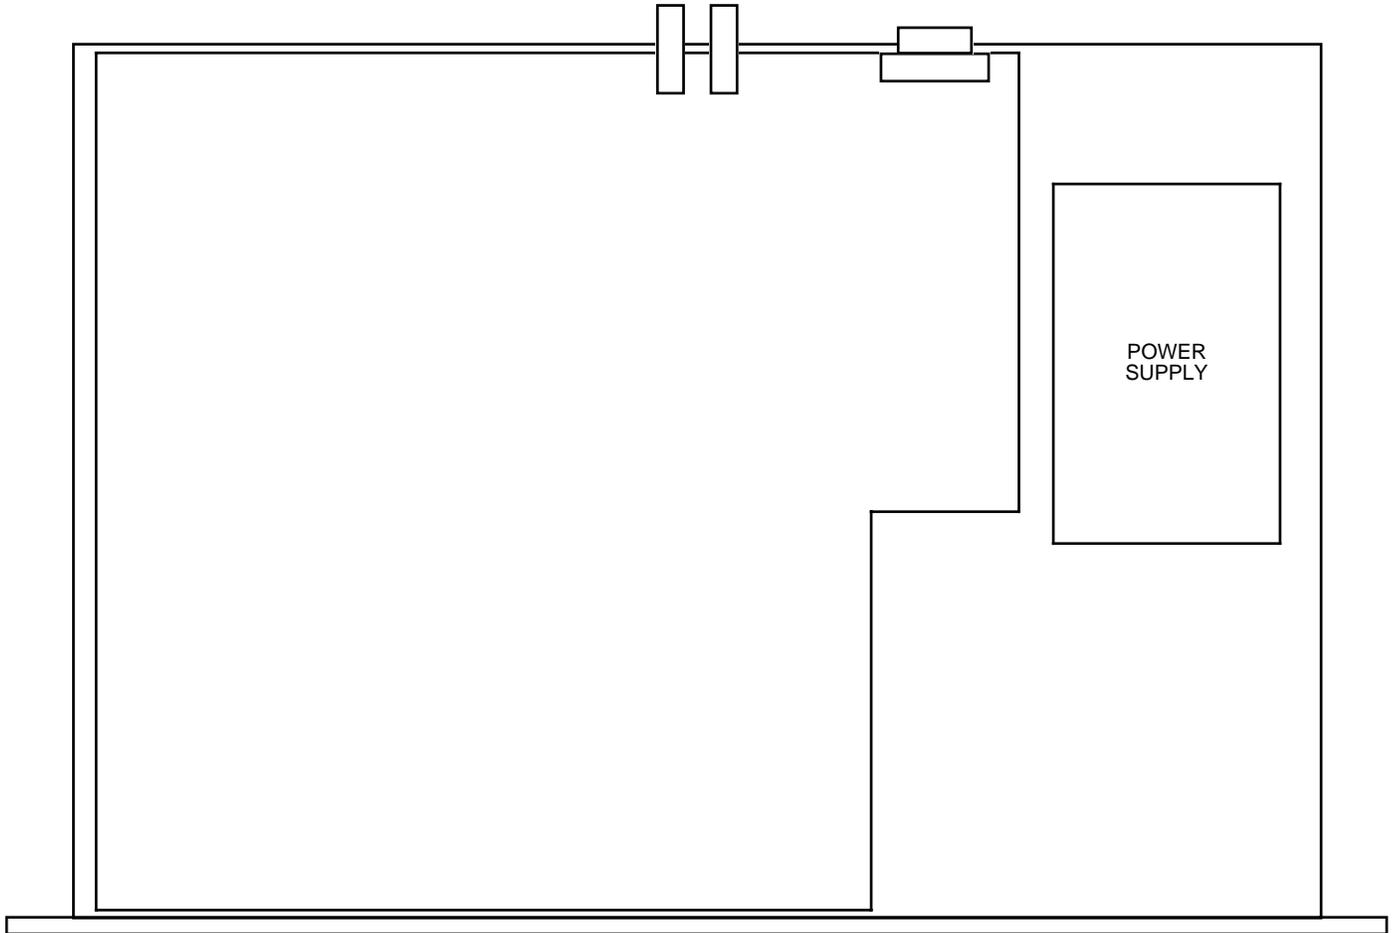

FIGURE 2.0 2099-100 Mechanical Assembly
2.1 Mechanical - The 2099-100 consists of one RF PCB housed in a 1 RU (1 3/4 inch high) by 14 inch deep chassis. A switching, ± 12 , +24, +5 VDC power supply provides power for the assemblies. The 2099-100 can be secured to a rack using the 4 holes on the front panel. Figure 2.0 shows how the 2099-100 is assembled.